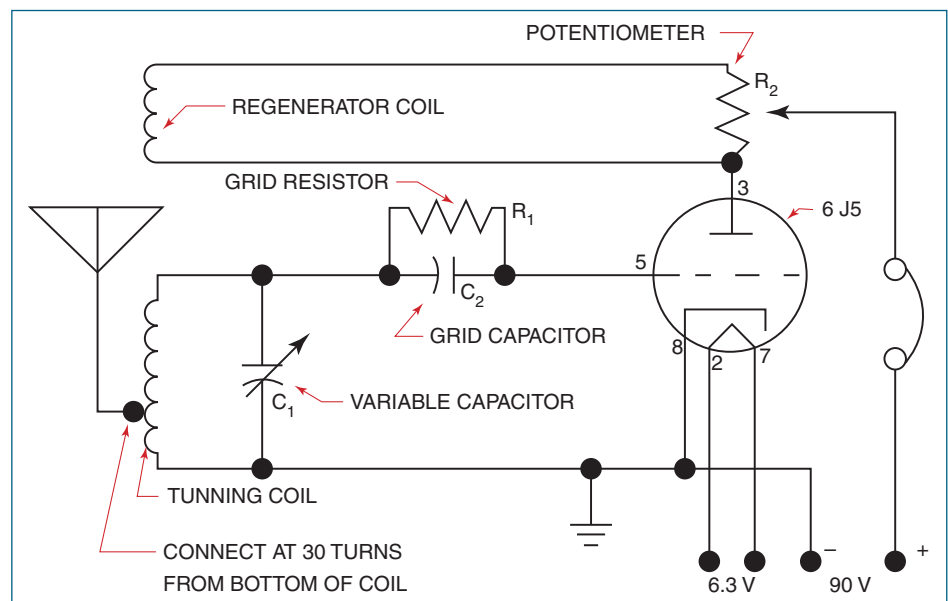

Figure 1-9 An example of an electronic schematic drawing for a small radio.
- **Schematic drawings** (See Chapter 22) use symbols and lines to show the flow of energy or fluids (**Figure 1-9**).